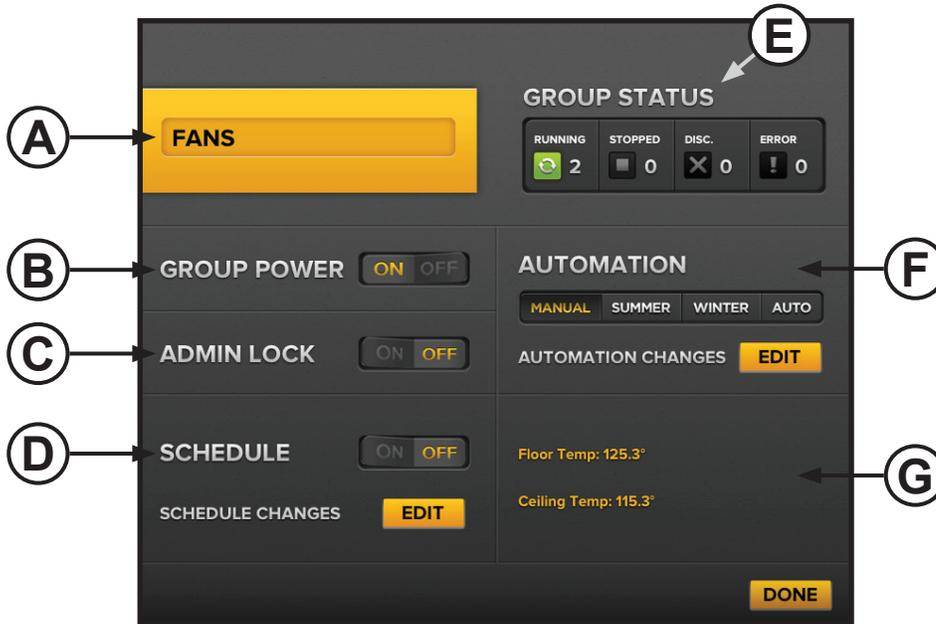

Figure 5—Fan group details page
2. Locate the fan group you want to work with, and then touch the **Detail Page** button for the group. The group details page appears (Figure 5).
3. Adjust the settings as necessary, and then touch **Done**. See Figure 5 below and the following page for details.